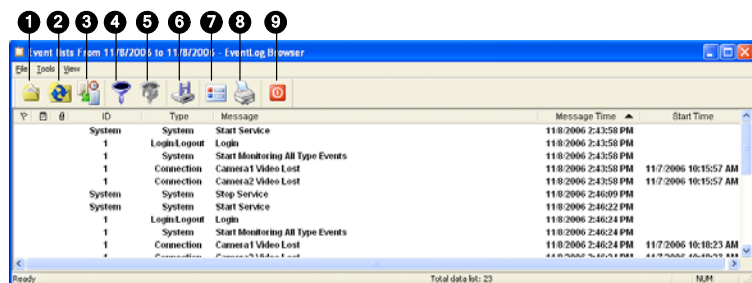

Figure 1-22
Click the **Open** button (No. 1, Figure 1-22) to launch the following Open DataBase dialog box. Define a time period, select the type of log, and click **OK** for search. Events matching the search criteria will be loaded to the Event Log Browser window.
Click the **Filter** button (No. 4, Figure 1-22) to bring up the following Event Log -- Filter window. This option allows you to perform a search based on criteria.
1. On the Event Log Browser, click the **Page Setup** button (No. 7, Figure 1-22) to display this dialog box.
4. Click the **Print** button (No.8, Figure 1-22) to start.
1. In the Event List Browser window, click the **Backup** button (No.6, Figure 1-22). This dialog box appears.